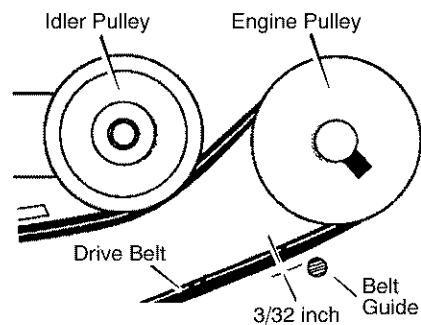

Figure 12
8. Set the belt guide to  $\frac{3}{32}$ " clearance as shown in Figure 12.